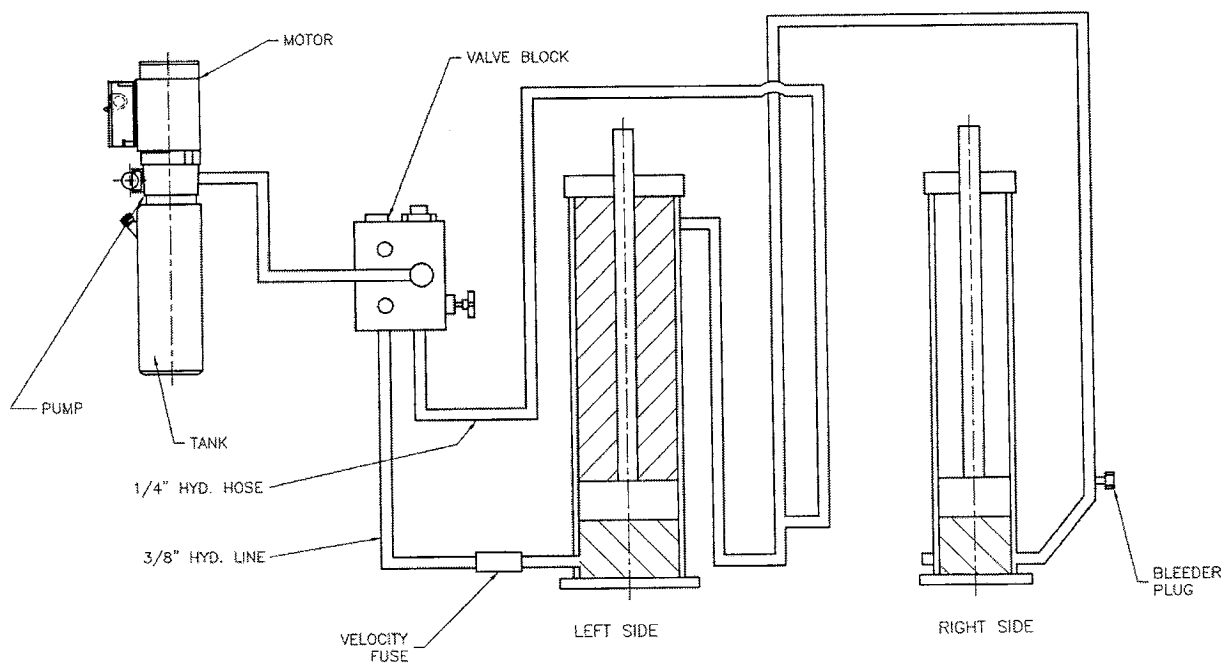

Figure 10 – Hydraulic System Schematic
1. Install the safety release bracket on each tower as shown in Figure 10. Attach the safety pulley to the bracket using the 3/8" x 5/8" LG. shoulder bolt, 5/16" lockwasher and 5/16" hex nut. Attach the pulley bracket, complete with pulley, to the tower using the 5/16" x 3/4" LG. hex bolt, 5/16" flat washer, 5/16" lockwasher, and 5/16" hex nut.